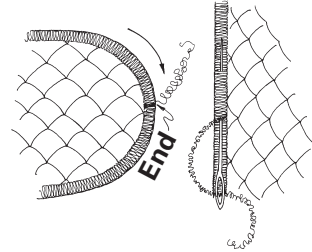

Fig. 22-6
5. Thread a blunt-point tapestry needle with the thread chain and work it back through the beginning stitches. Clip the thread tails for a clean finish. (Fig. 22-6)